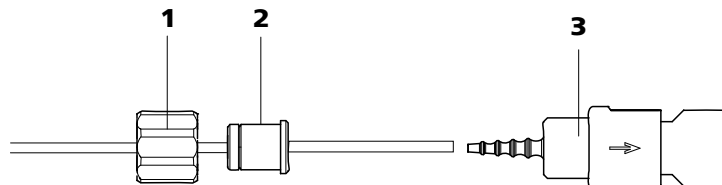

Figure 30 Install pump tubing connection with filter
- **Case A:** a 6.2744.180 pump tubing connection **with filter** (see Figure 30, page 56) or